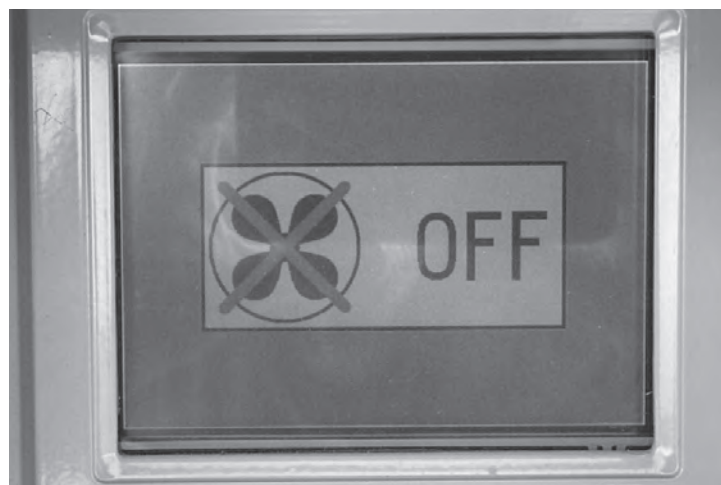

Figure 4.18
- Once the temperature has been reduced to 130°F (54.4°C), the main fan will shut off, then the "Start" screen should appear. See Figures 4.18 and 4.19.